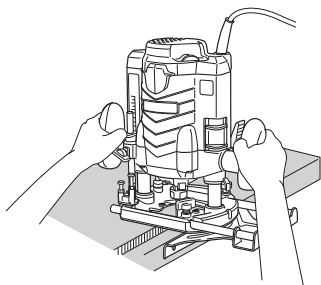

Fig. 13
- ① Insert the guide bar into the hole in the base, adjust the distance between the bit and the guide surface, and then firmly tighten the wing bolt (A) (standard accessories).
- ② As shown in Fig. 13, securely attach the bottom of the base to processed surface of the materials. Feed the router while keeping the guide plane on the surface of the materials.